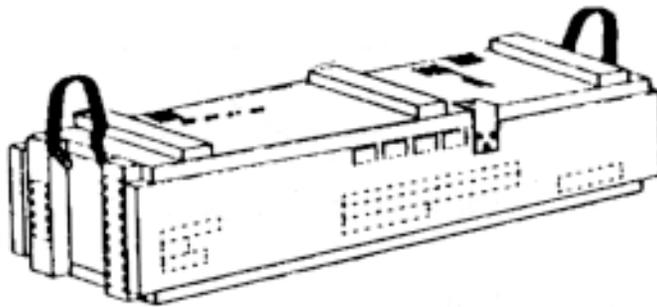

Figure 1-12 Semi-fixed ammo box
(1) **Semi-fixed ammunition.** The projectile, fuze, propellant, and primer for a semi-fixed round are placed in the same individual fiber shipping container (Figure 1-12). These have cork and felt padding to provide a tight fit for the round. Usually, two rounds (in fiber containers) are packed in a wooden box. Semi-fixed ammo box boxes have all the information required for complete identification of the contents stenciled on them. The primer for a semi-fixed round is an integral part of the cartridge case. Extra precautions are needed when removing the cartridge from its container. Dropping or striking the base on a sharp object could cause the primer to ignite.